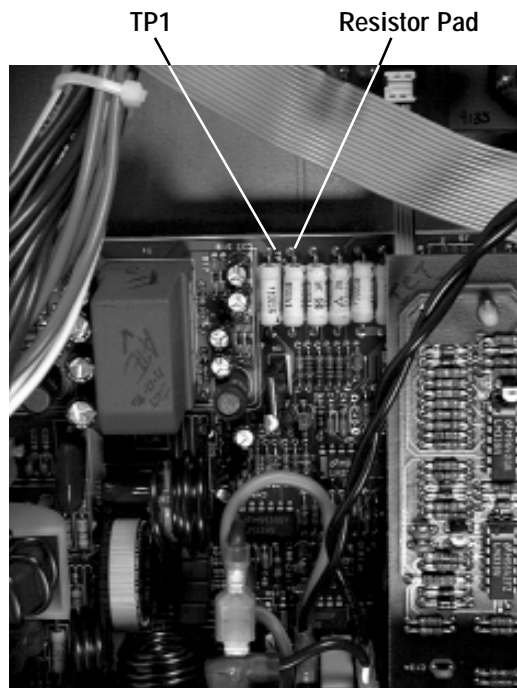

Figure 5.1 Discharge Test Point
2. Locate Test Point 1 (TP1) on the Main PWA. See Figure 5.1.